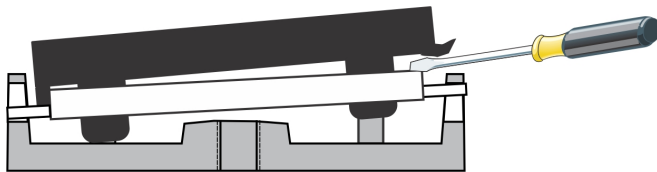

Figure 3
10. Gently pry the Resilient Cushion away from the Bearing Plate, just enough to wedge the end of the screwdriver between the Resilient Cushion and the Bearing Plate. See Figure 3.